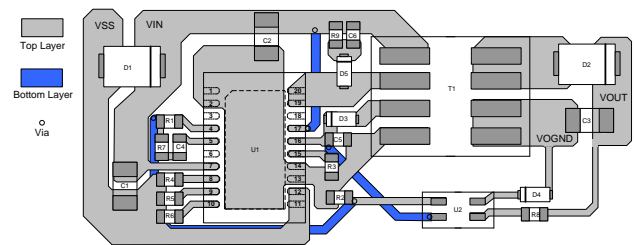

Figure 8—Layout Guide
- Refer to figure 8 for flyback layout, which is referenced to schematic on page 1. For more detail information, refer to flyback EVB datasheet.